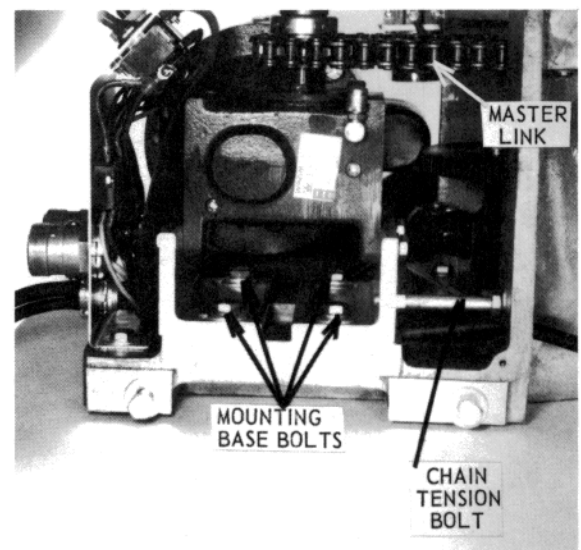

Figure 71 — Drive Chain
- 6.1.7 Slacken drive chain by loosening the four speed reducer mounting base bolts and chain tension bolt (see Figure 71). Disconnect chain by removing master link.